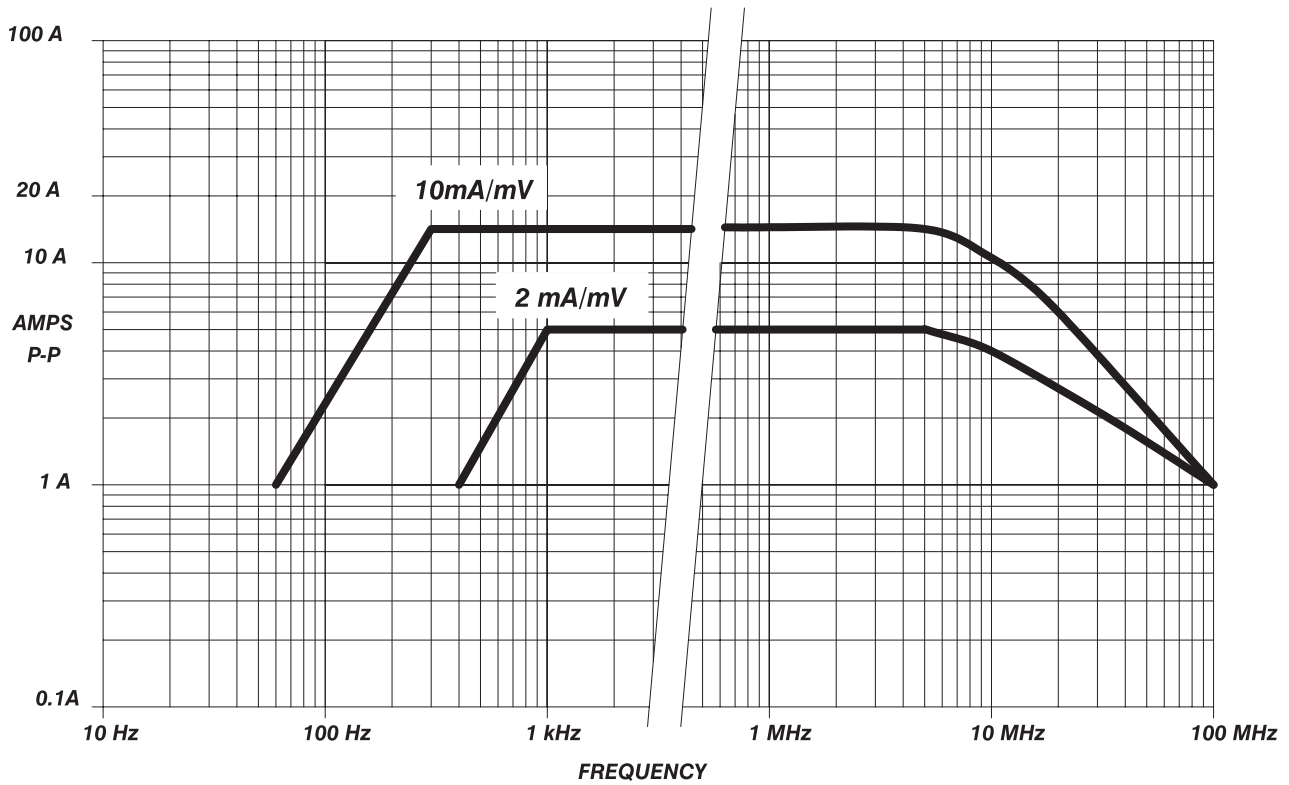

Figure 3: Probe and termination input current vs. frequency derating
Maximum Continuous (CW) Current	Refer to Figure 3 for frequency derating curves